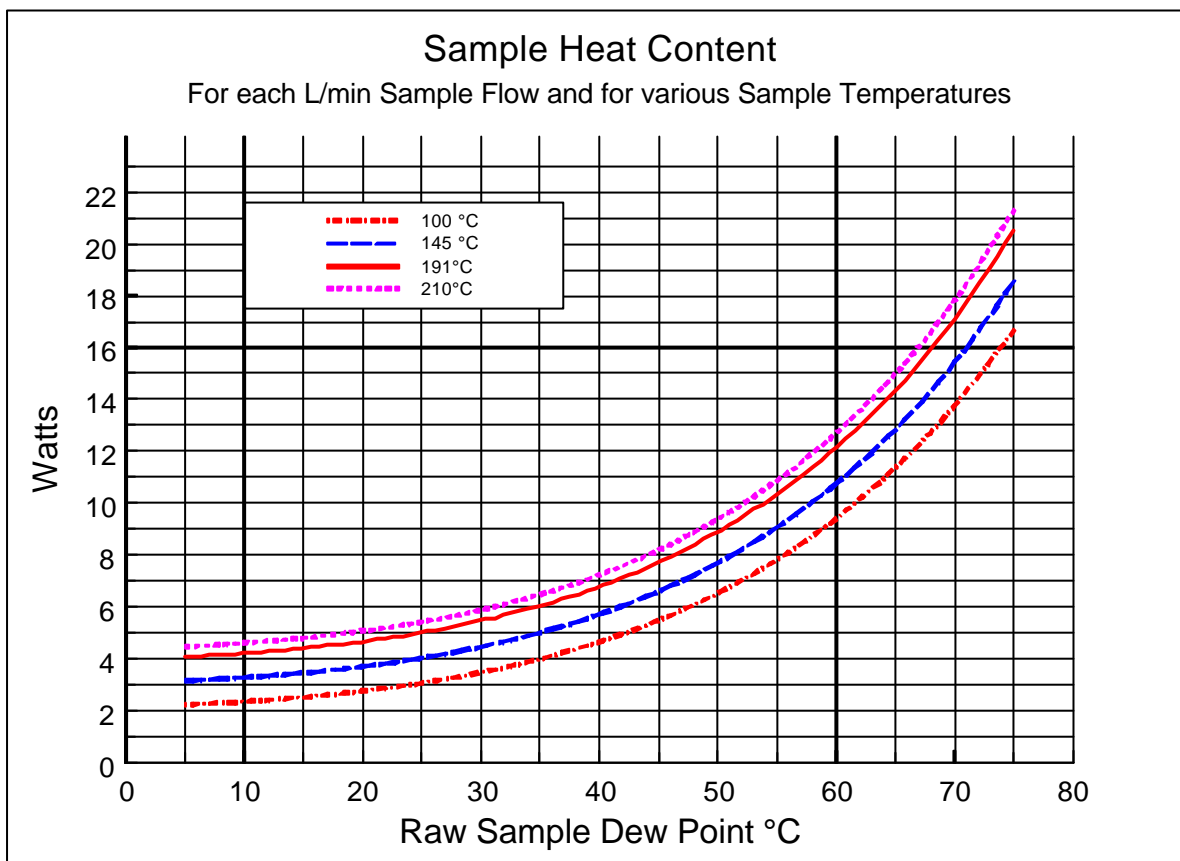

Figure 4 Sample Heat Content
- 3.4.4 Estimate the heat extraction rate required to cool 1 L/min sample using Figure 4 and calculate total rate for each channel by multiplying by the required flow rate..